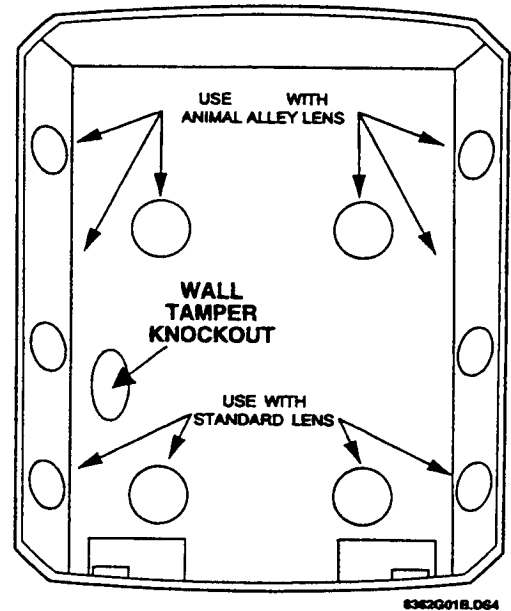

Figure 16. PIR Mounting Plate Knockouts. Use the Wall Tamper Knockout only if tampering at the wall
2. Punch out the mounting holes that best fit your application. See Figure 15. for wall mount options. See also Figure 16. to determine which knockouts to use when mounting the motion sensor. Use the lower-side holes for corner mounting, or the lower-back holes for surface mounting with the standard lens.
5. If you desire wall tamper functionality, remove the wall tamper knock-out (see Figure 16.). The wall tamper switch cannot be used when the sen-